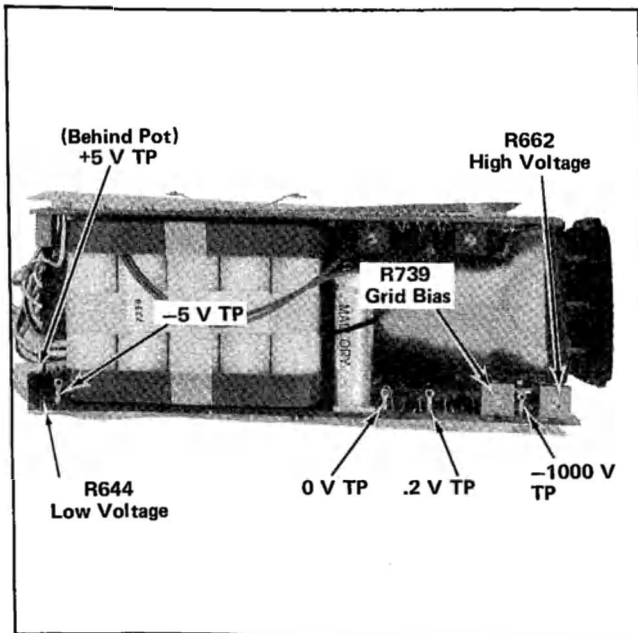

Fig. 5-1. Location of the Low Voltage, High Voltage adjustments and test points.
- d. Adjust R644 Low Voltage adjustment for exactly 10 volts. See Fig. 5-1.
- c. Adjust the High Voltage adjustment R662 for exactly -1000 volts. See Fig. 5-1.
- d. Adjust Grid Bias Adjustment R739 for exactly 0.2 volt. See Fig. 5-1.